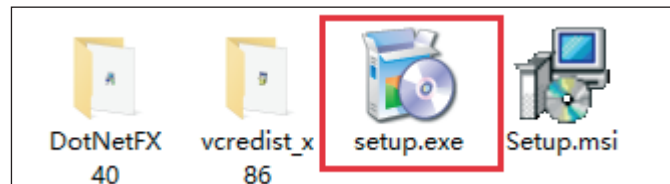

Figure 2-1
1. Click the setup. exe, as shown in Figure 2-1.